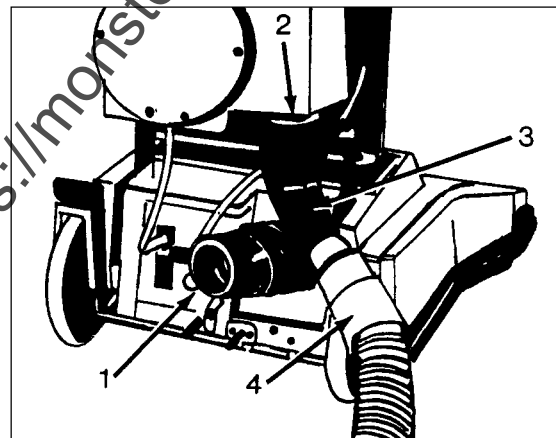

Figure 2
1. Pull the black standpipe hose (1) off the standpipe tube (2). The hose is at the lower-right corner of the machine.
2. Slide the hose adapter (3) on the tube.
3. Slide the vacuum hose on the adapter (4). See Figure 2